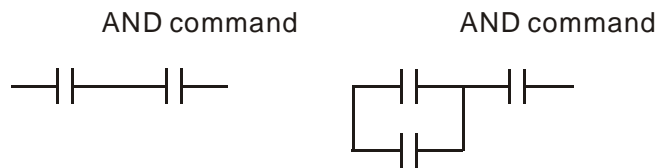

Figure 16-32
**AND (ANI) command:** a series configuration in which a single device is connected with one device or a block. See Figure 16-32.